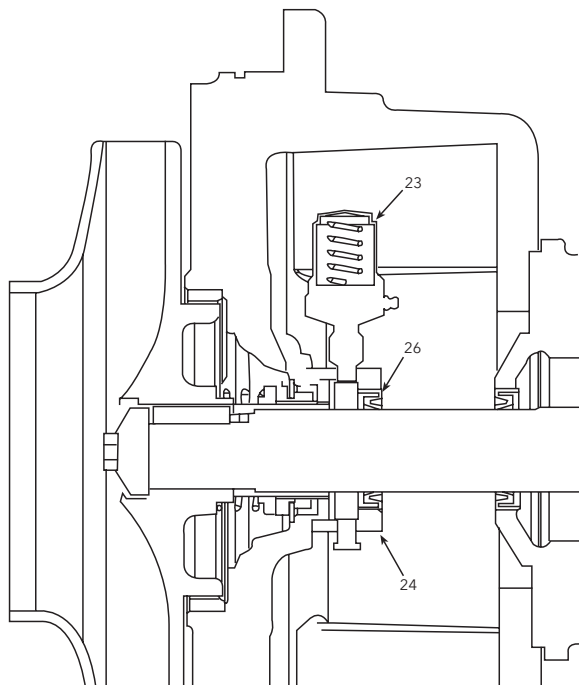

Figure 15
1. The grease gland (24) will have the letters "G" and "O" stamped on the outside diameter and have two ½" NPT connections for mounting a grease feeder or oiler.
2. For grease feed applications, the grease gland is assembled with the "G" stamp in the 12 o' clock position. The grease feeder (23) will mount in the grease gland at a 30 degree angle from the horizontal. This is done to gain access to the grease fitting located on the grease feeder. The lip seal (26) mounted in the grease gland will be assembled as shown in Figure 15.